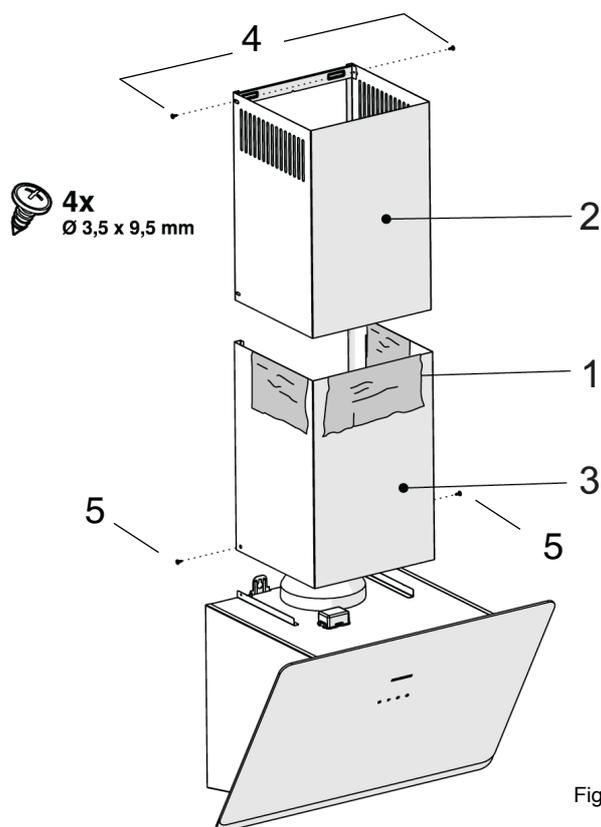

Fig. 13
2. Drill the holes, insert the wall plugs and secure the chimney bracket to the wall as shown in (Fig. 13).
4. Slide the chimney cowl extension inside the chimney cowl as shown in (Fig. 13) ensuring the air slats are uppermost.
5. Carefully place and support the two items on the top of the hood and attach to the points 5 (Fig. 13) using the screws provided.
6. Slide the chimney cowl extension up over the chimney cowl bracket and secure with two remaining provided screws at points 4 on (Fig. 13) in a similar way.